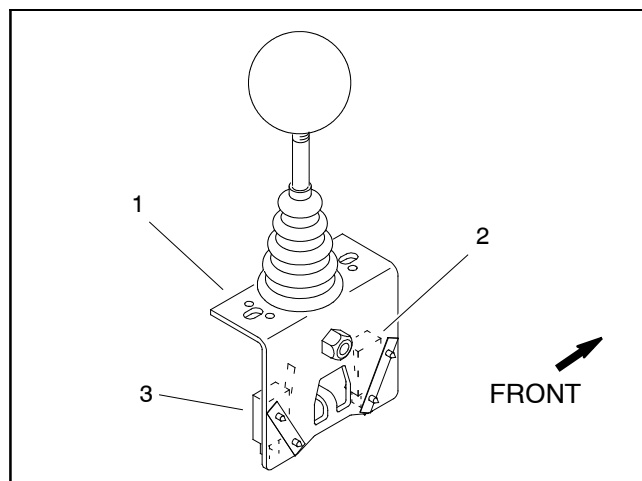

Figure 48
3. Disconnect wire harness electrical connector from the raise or lower switch that is to be tested (Fig. 48).